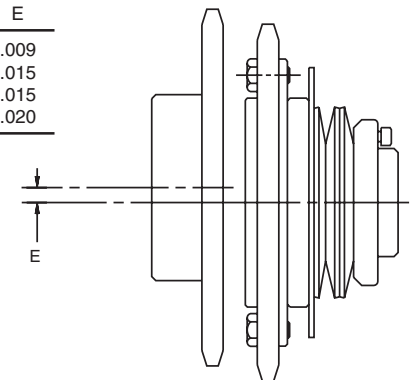

Figure 3
- A. Angular misalignment should be held within 0.5 degrees. To indicate measure dimension “C” along outside edge of sprocket in at least three locations (Figure 3).